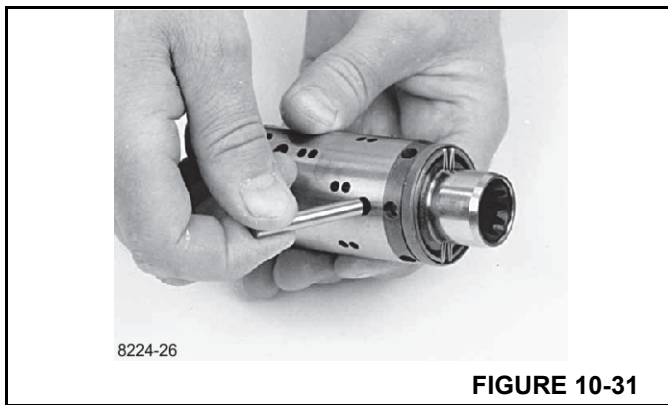

FIGURE 10-31
5. Fit the cross pin into the spool/sleeve (Figure 10-31).